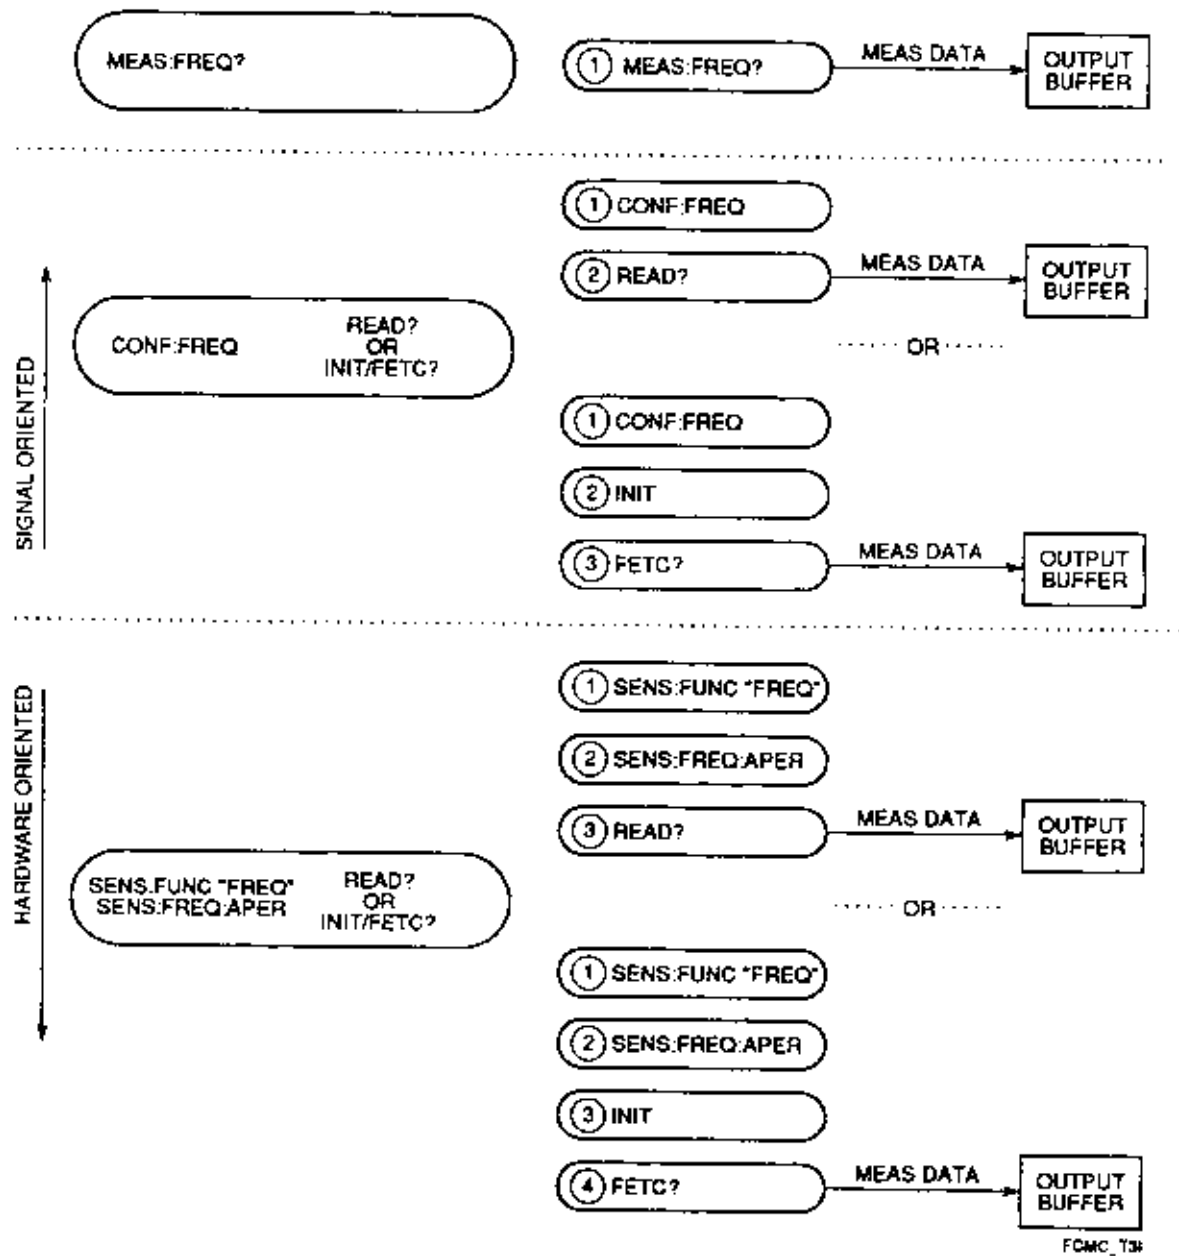

Figure 4-2. SCPI Measurement Capability
The SENSE command lets you customize your measurements if the MEASure and CONFigure default values aren't appropriate for your needs. When customized, this way, your measurements gain precision and can execute faster by using the READ?, INIT, and FETCH? commands (see *Figure 4-2*).
*Figure 4-2* illustrates how the MEASure, CONFigure, and SENSE:FUNCTION commands differ in how they are used with READ?, INITiate, and FETCH? commands, and how they ALL perform the same measurement and get the data to the output buffer.